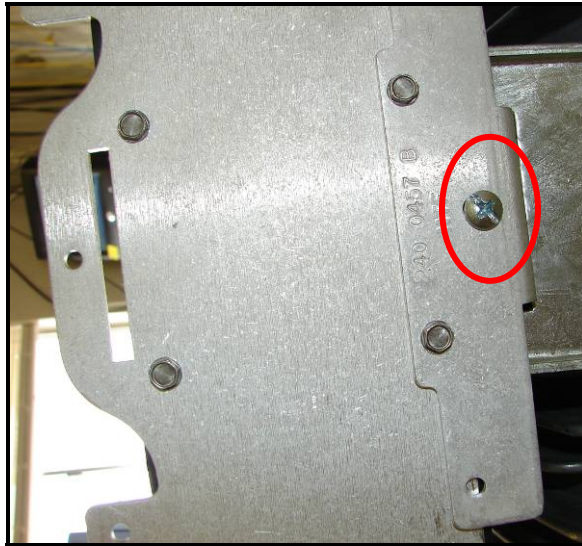

Figure 49 – Secure Gateway-Bridge to hanging bracket
6. Secure the Gateway-Bridge by using a #10 screw (*see Appendix A for selection*). Secure the top of the Gateway-Bridge to the hanging bracket as shown in *Figure 49*.